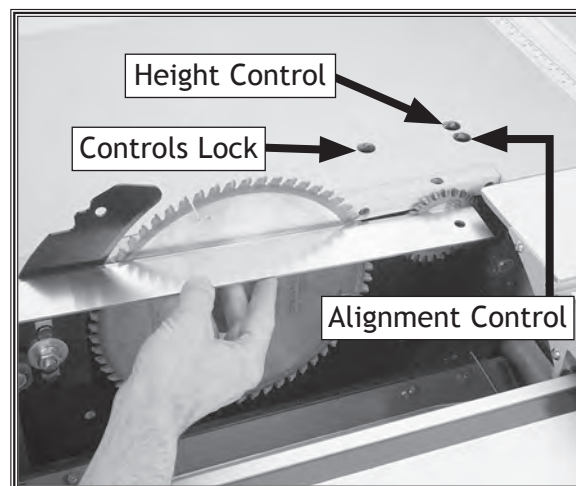

Figure 64. Checking and adjusting scoring blade positioning.
7. Unlock the scoring blade controls by inserting a 6mm hex wrench into the controls lock hole shown in **Figure 64** and turning the mechanism inside counterclockwise until loose.
8. Adjust the height of the scoring blade until the exposed portion equals the kerf thickness of the main blade. The scoring blade height control is accessed through the hole in the table (**Figure 64**) and adjusts with a 6mm hex wrench. Use a straightedge to verify that the scoring blade kerf matches the main blade.
9. If the scoring blade is not aligned with the main blade, adjust the blade alignment control (**Figure 64**), using a straightedge as a guide.